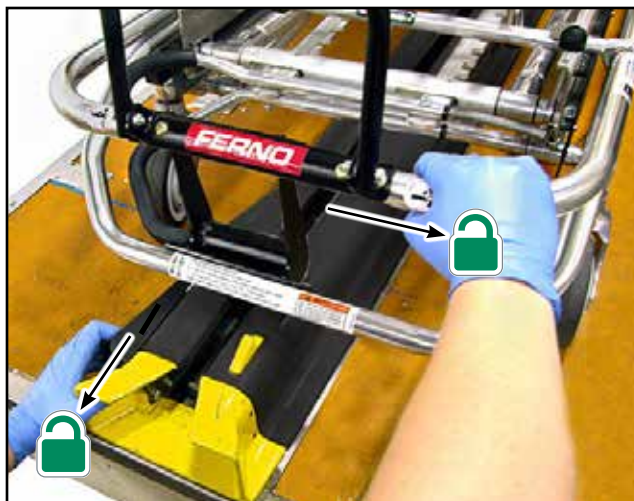

Figure 7 - Releasing the Cot from the Stat Trac
2. Pull the cot release handle toward the rear of the ambulance (Figure 7) and slide the foot-end of the cot to the right to free it from the cot lock.